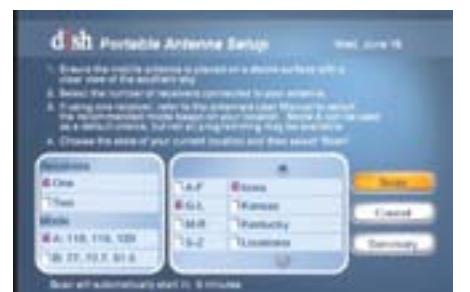

Figure 2B
- ⑤ After rebooting, the Mobile Setup screen must be completed again. After the update, regardless of manufacture date of the receiver, the Mobile Setup screen will be figure 2B. Select the number of receivers, the arc (if one receiver was selected), and the state that you are currently in, and press "Scan" to begin the search routine.